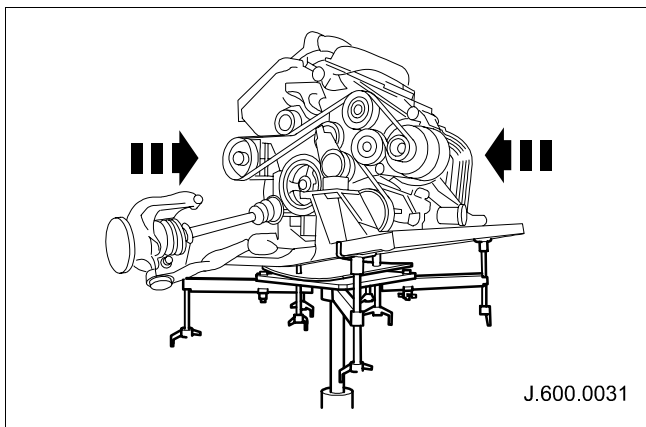

Fig. 2
- 6 Counterbalance the load on the Nike Lift by hand, pushing or pulling the load in the outer position until the Nike Lift lowers. (See Fig. 2)